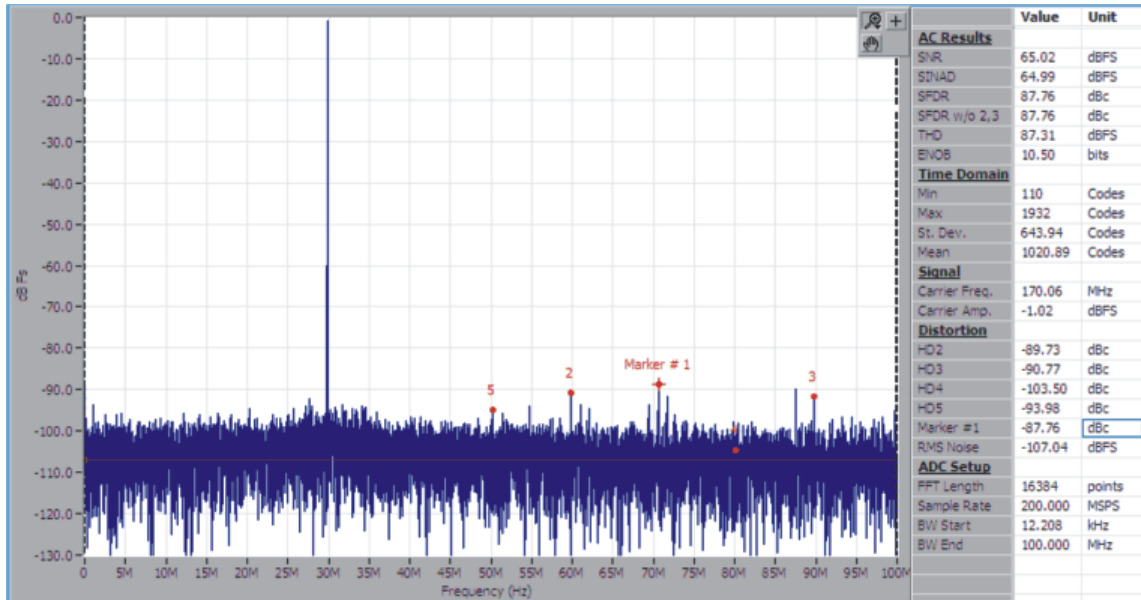
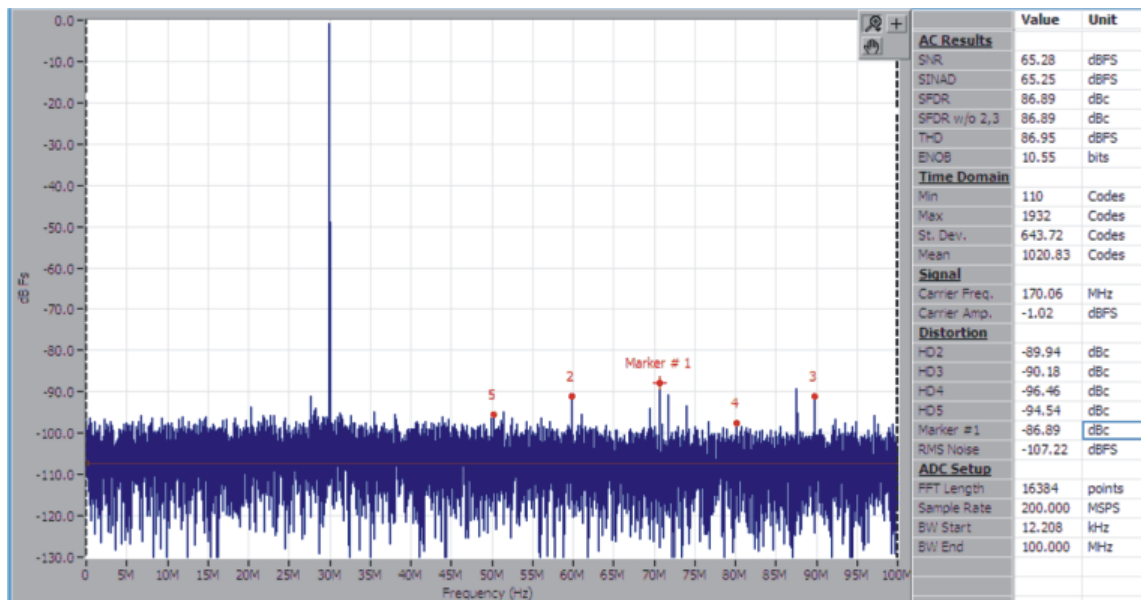

Figure 57. FFT Plot of PGA870 (G = 20 dB) + Second-Order Bandpass Filter and ADS58C48 with Single-Tone Input at 170 MHz
Figure 58. FFT Plot of PGA870 (G = -4 dB) + Second-Order Bandpass Filter and ADS58C48 with Single-Tone Input at 170 MHz
**Figure 57** shows the resulting FFT plot captured using the TSW1200 software with the PGA870 and a second-order filter driving the ADS to  $-1$  dBFS, with a single-tone input 170-MHz sine wave sampled at 200 MSPS. The results show 87.76-dBc SFDR and 65-dBFS SNR; analysis of the plot is shown in Table 6. The PGA870 is set to a maximum gain of 20 dB. **Figure 58** shows the FFT plot with the PGA870 set instead to a gain of  $-4$  dB, with the input signal amplitude increased accordingly to obtain  $-1$  dBFS at the ADC input. The results show about 1 dB lower SFDR at this gain setting and no change in the SNR.